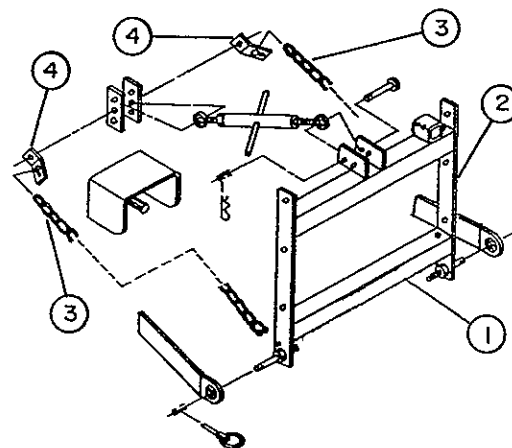

FIGURE 4
- c) Attach tractor lower links to hitch pins of carrier frame (fig.4, item 1), using tractor lynch pins.
- d) Install tractor top link to attaching frame (fig.4, items 1) in front hole position. Adjust top link so that attaching frame is perpendicular to ground level.
- e) Attach depth control chains (fig.4, item 3) in chain support plates (fig.4, item 4), adjust chain so that bottom of attaching frame stops at 3" to 3 1/2" from ground.